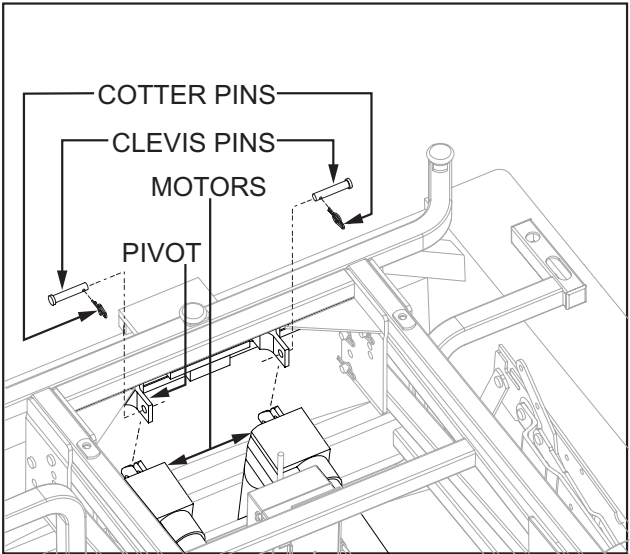

Figure 2. Clevis and Cotter Pin Removal
3. Remove the cotter pins and clevis pins from the motors. See figure 2.
5. Remove the motors from the lift frame. See figure 2.
5. Reattach the motors (rear first) into the lift frame with the clevis pins and cotter pins. See figure 2.